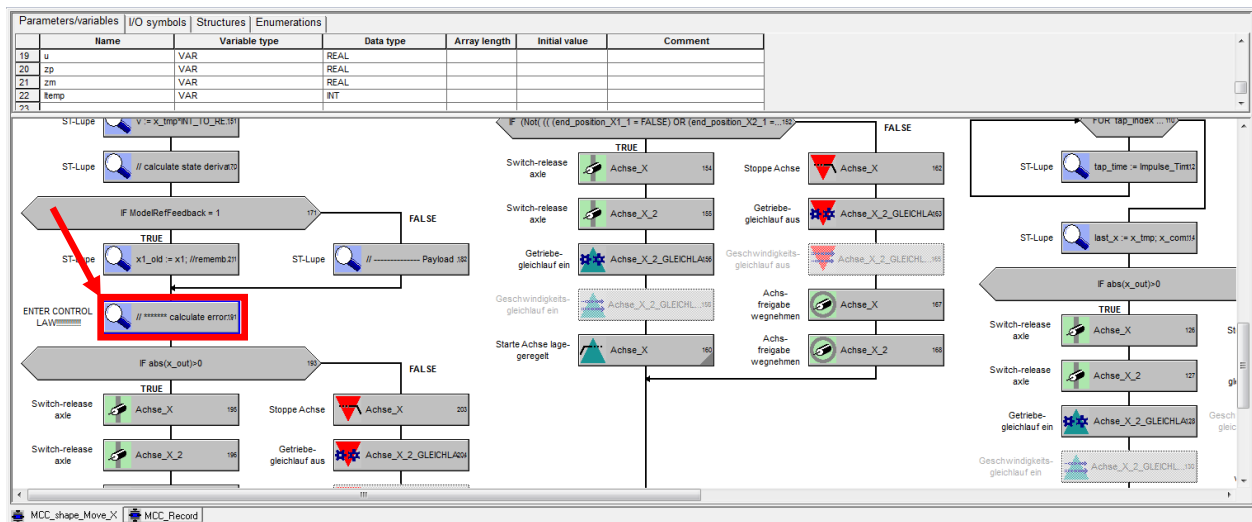

Figure 4: Block program of Y-axis move in Simotion Scout
5. Double click on the block shown in Figure 4.